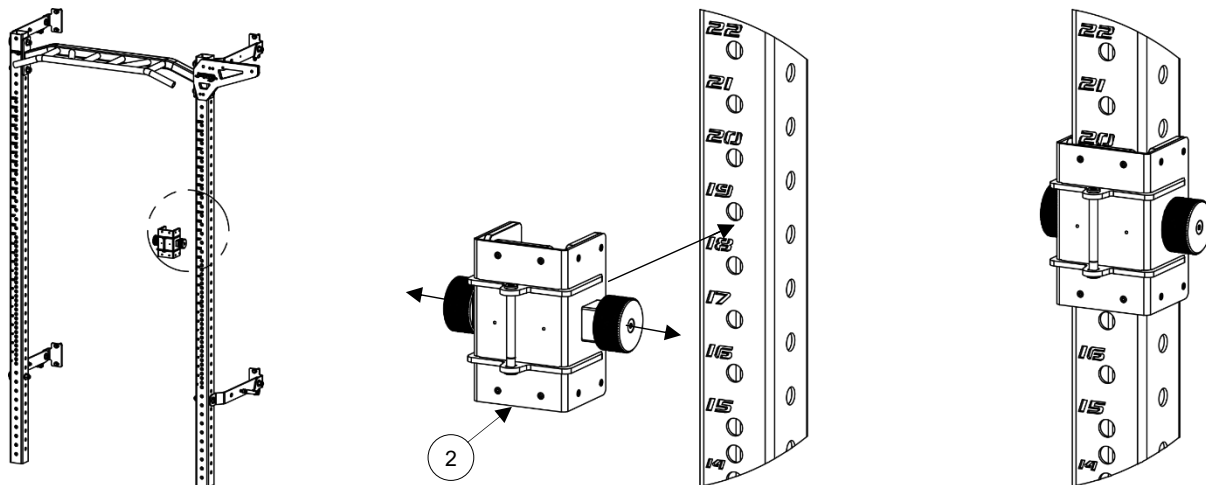

Figure 8: Installing Trolley Assembly
1. Simultaneously pull the knurled pop pins out and place the Trolley Assembly (2) on the upright (**Figure 8**). Release the pop pins and slide the Trolley up or down the post until the pins sit into a hole.